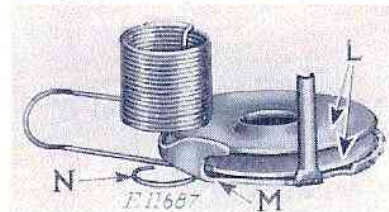

FIG. 20
Place the two tension discs (L, Fig. 20) with the flat thread-bearing sides of the discs together in position on the thread guard (M). Then pass the
eyelet (N) of the thread take-up spring under the thread guard, having the coils of the spring above the tension discs as shown in Fig. 20.